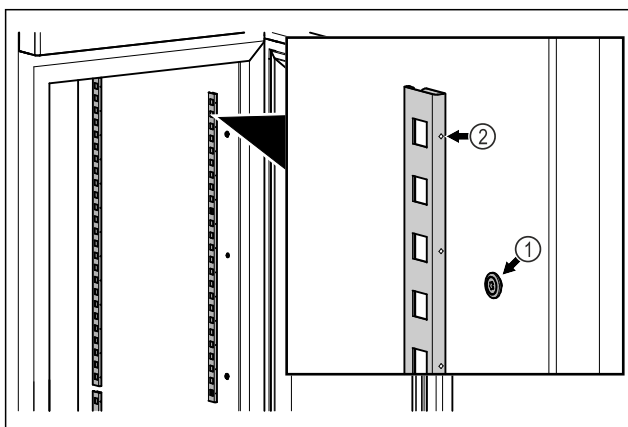

Fig. 83 Example illustration
- Hook the snap strips into the suspension Fig. 83 (1). Mark Fig. 83 (2) must point forwards.